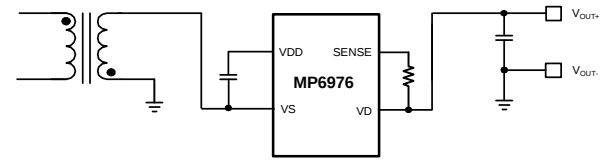

Figure 4: High-Side Rectification
Figure 4 shows the typical system IC implementation for high-side (HS) rectification.